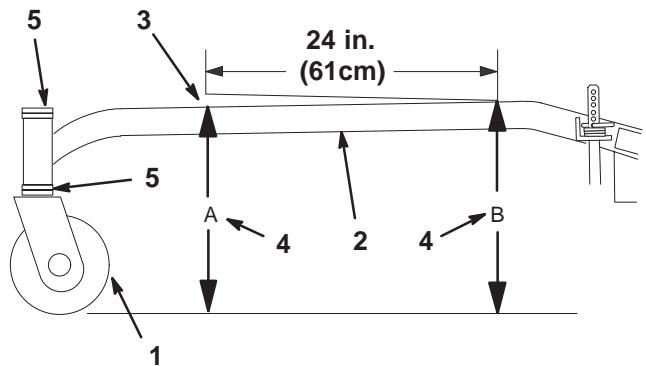

Figure 69
The carrier frame must have a pitch of a 1/4 inch (6 mm) over the length of 24 inches (61 cm) on the carrier frame (Fig. 69).
1. Measure out 24 inches (61cm) on the carrier frame (Fig. 69).
2. Measure carrier frame height at location **A** (Fig. 69).
3. Measure carrier frame height at location **B** (Fig. 69).
4. The height at location **A** must be a 1/4-3/8 inch (6 mm –10 mm) lower than location **B** (Fig. 69).
5. If the carrier frame is not correct, move caster spacers to make it a 1/4-3/8 inch (6 –10 mm) pitch (Fig. 69). Move spacers from top or bottom to make the correct pitch.